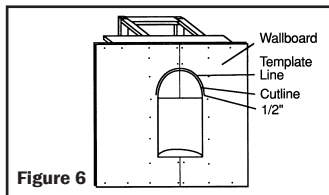

Figure 6
- Use Niche Cap as a template on wallboard, draw line and measure in 1/2" for the cutline and cut. (figure 6)